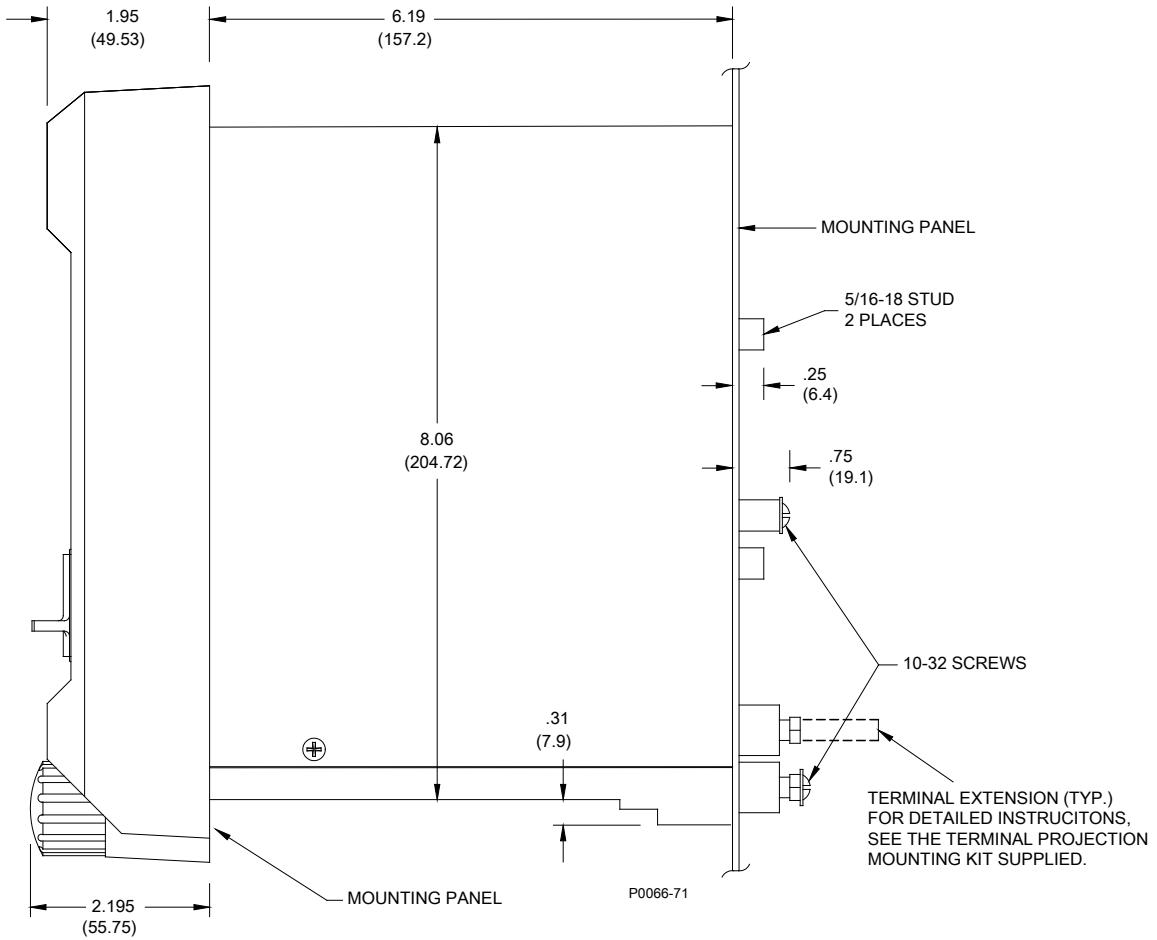

Figure 4-11. S1 Case Dimensions, Side View, Single Ended, Projection Mount
- Figure 4-11: S1 Case Dimensions, Side View, Single Ended, Projection Mount